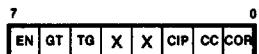

Figure 35. Counter/Timer Command/Status Register
**Interrupt Enable (IE).** While this bit is set to 1, the counter/timer generates an interrupt request when the count/time output condition is met. While this bit is 0, no interrupt request is generated.
**Retrigger Enable (RE).** While this bit is set to 1, the time constant value is automatically loaded into the Count/Time register when a trigger input is received while the counter/timer is counting down. While this bit is 0, no reloading occurs.
**Counter/Timer Command/Status Register.** This 8-bit register (Figure 35) provides software control over the operation of the counter/timer and reflects the current status of the counter/timer's operation. Control bits in this register enable the counter/timer's operation and provide software gate and trigger capabilities. Status bits indicate whether a count is in progress, the count/time output condition has been reached, or the condition has been reached a second time.